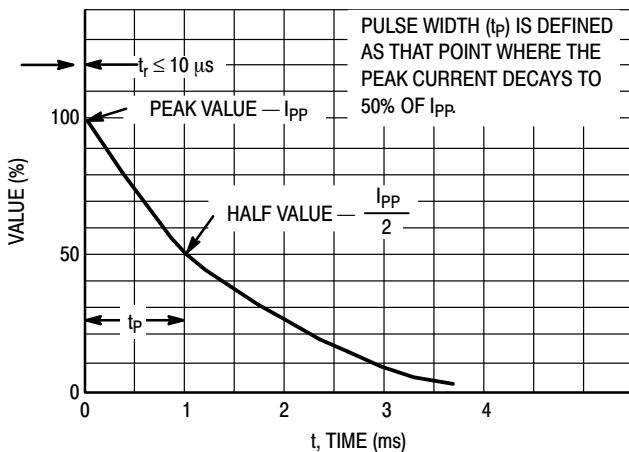

Figure 5. Pulse Waveform
- Peak Power – 40 W @ 1.0 ms (Bidirectional), per Figure 5 Waveform
1. Nonrepetitive current pulse per Figure 5 and derate above $T_A = 25^\circ\text{C}$ per Figure 6.
5. Surge current waveform per Figure 5 and derate per Figure 6